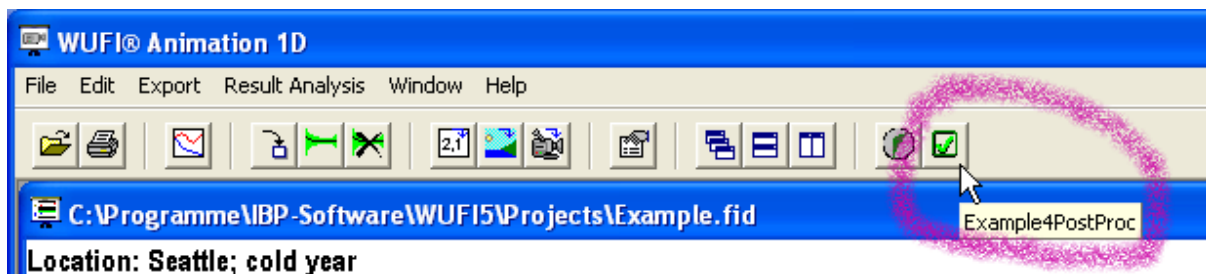

Fig. 2: Appearance of Animation1D after installation of an additional postprocessor.
- 3) Start Animation1D, open any film and you should see the new postprocessor as marked in Fig. 2.